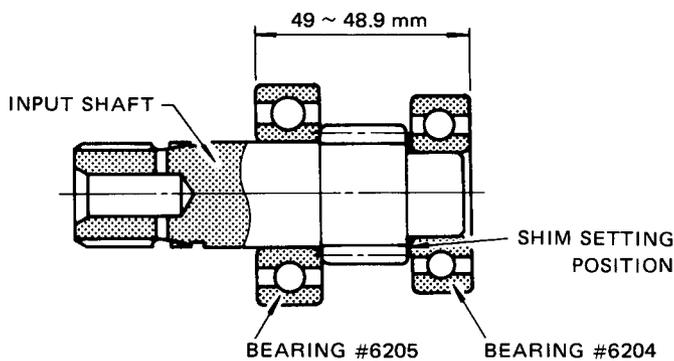

Fig. 12-3
- a) Pressure-fit the bearings into the input shaft so that the bearing (#6205) is set in the spline side and the bearing (#6204) in the edge face side. Then, insert the shim between the bearing (#6205) and the gear so that the clearance between the two bearings after they have been pressure-fitted is from 49 mm to 48.9 mm. Two types of shim; 0.3 mm thick and 0.1 mm thick are available. (See Fig. 12-3.)